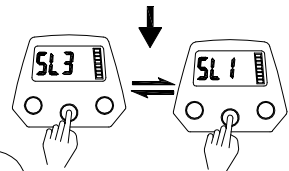

Figure 10-1-4
- 4、 Press "MENU" in turn, and "SL3" and "SL1" will continue to loop on the screen (Figure 10-1-4).